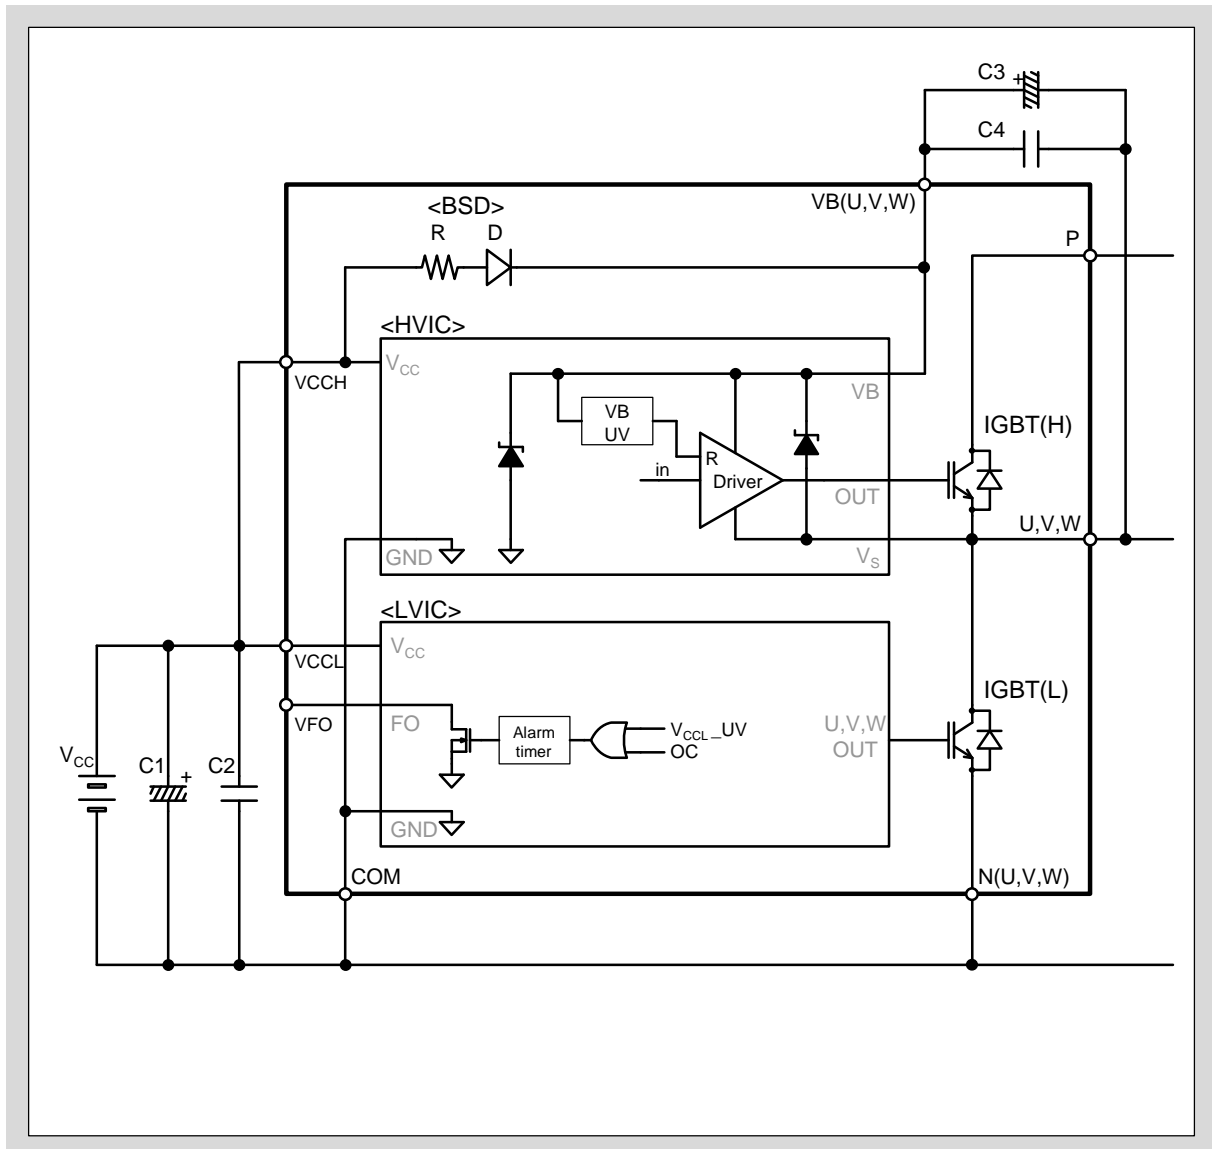

Fig.3-4 UV protection circuit of $V_B(U, V, W)$
- Fig.3-4 shows the UV protection circuit of high side power supply VB(U, V, W).
- As shown in Fig.3-4, diodes are electrically connected to the VB(U,V,W)-(U,V,W) and VB(U,V,W)-COM terminals. These diodes protect the product from input surge voltage. Do not use these diodes for voltage clamp purpose otherwise the product might be damaged.